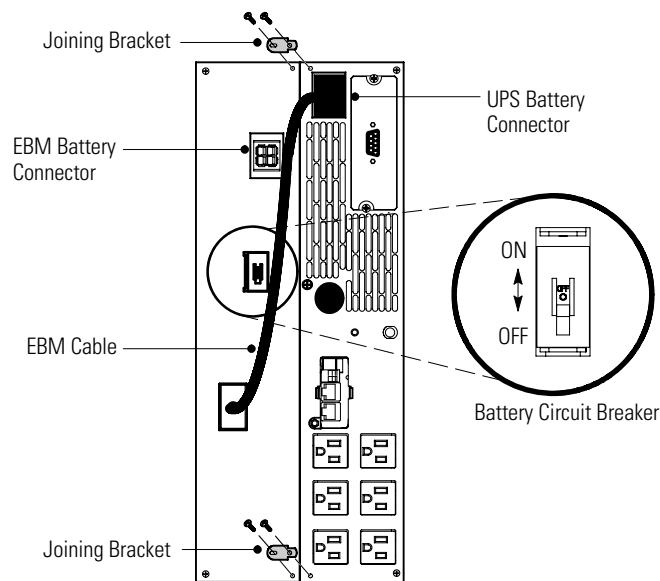

Figure 29. EBM Connections
1. Switch all battery circuit breakers to the OFF (O) position (see Figure 29).
7. Plug the EBM cable into the UPS as shown in Figure 29.